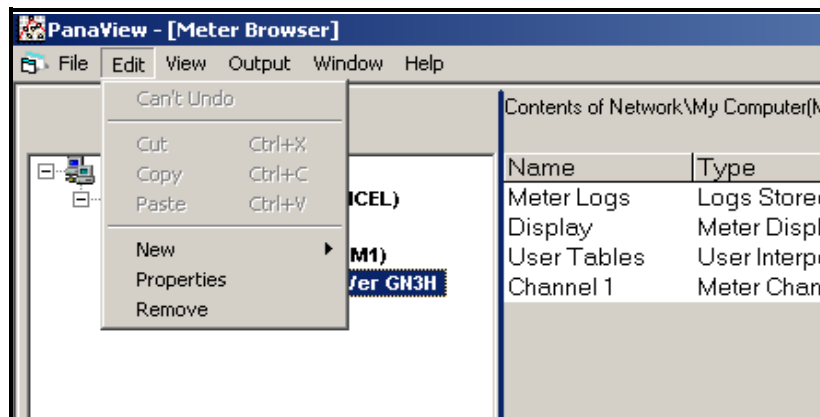

Figure 8: The *Properties* Option in the *Edit* Menu
2. Open the "Edit" menu and select the "Properties" option, as shown in Figure 8 below.